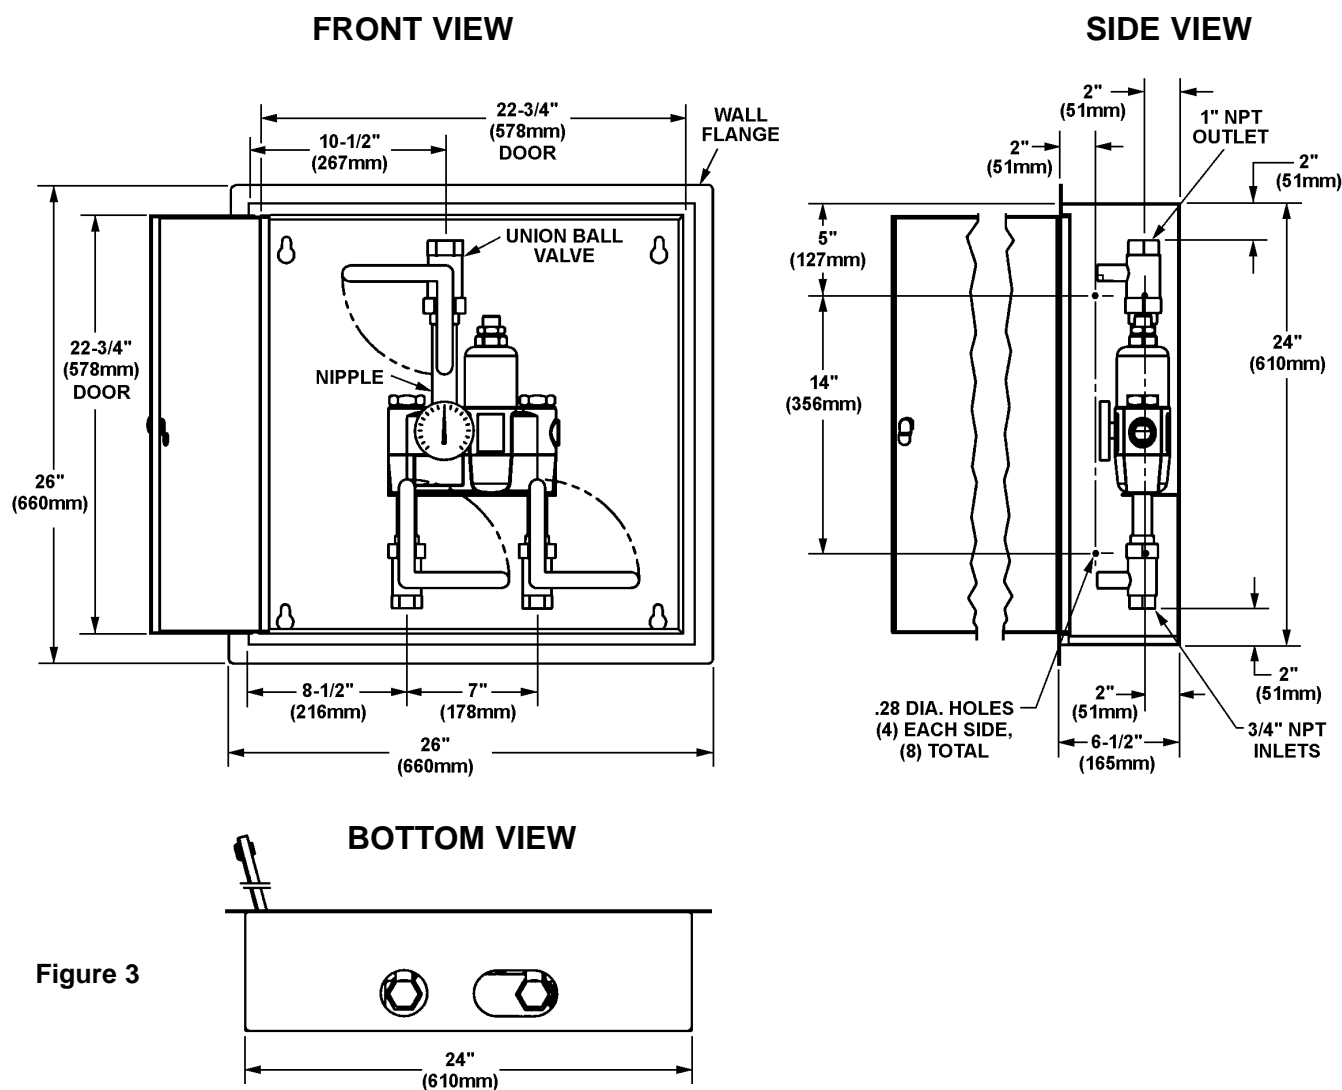

Figure 3
1. Rough in a 24-1/2" W x 24-1/2" H hole in the wall for the cabinet (see Figure 3).
2. Measure and mark the cabinet mounting hole locations at the dimensions shown in Figure 3. Install four 1/4" wall anchors, if required (anchors supplied by installer).